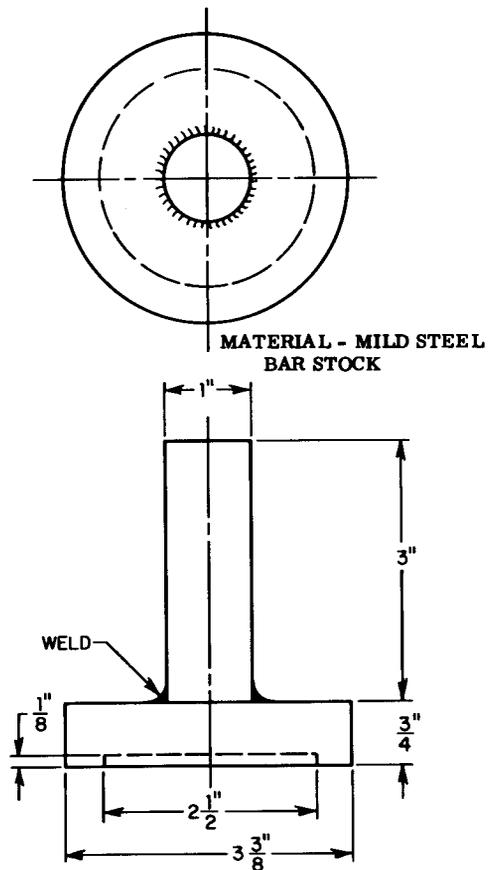

FIGURE 5
4. Bearing installation tool (Figure 5).